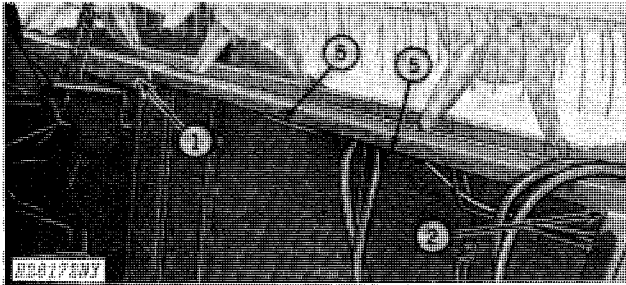

Fig. 110-Routing Conduit
1. Attach a piece of stiff wire, approximately 5 ft. (1.5 m) long, to the plug end of the wiring harness. Starting at the right-hand side of the feeder house, route harness through platform top beam (Fig. 110). Connect harness to harness on top of feeder house.
2. Route conduit along under side of top beam and through hole in end sheet (Fig. 110).
5. Secure conduit to hydraulic hoses with self-locking bands as required (Figs. 110 and 111).